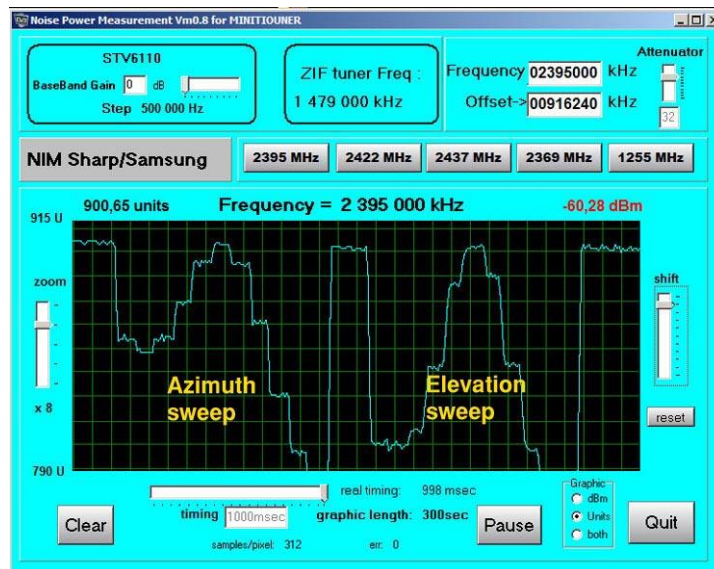

Fig 09 - Display of Noise Power Measurement tool sweeping the Sun with antenna rotator (Courtesy of Jean-Pierre F6DZP)
- sweeping their antenna dish around the good value, to be sure their antenna rotator tracking is set correctly (see **Figure 09**)
In the example shown in **Figure 09**, we are tracking the Sun, sweeping the antenna at -10°, -8°, -6°, -4°, -2°, 0°, +2°, +4°, +6°, +8°, +10° in azimuth and in elevation. At 0° we must have the top of the pyramid. If you obtain a symmetric pyramid, then your antenna is set well.